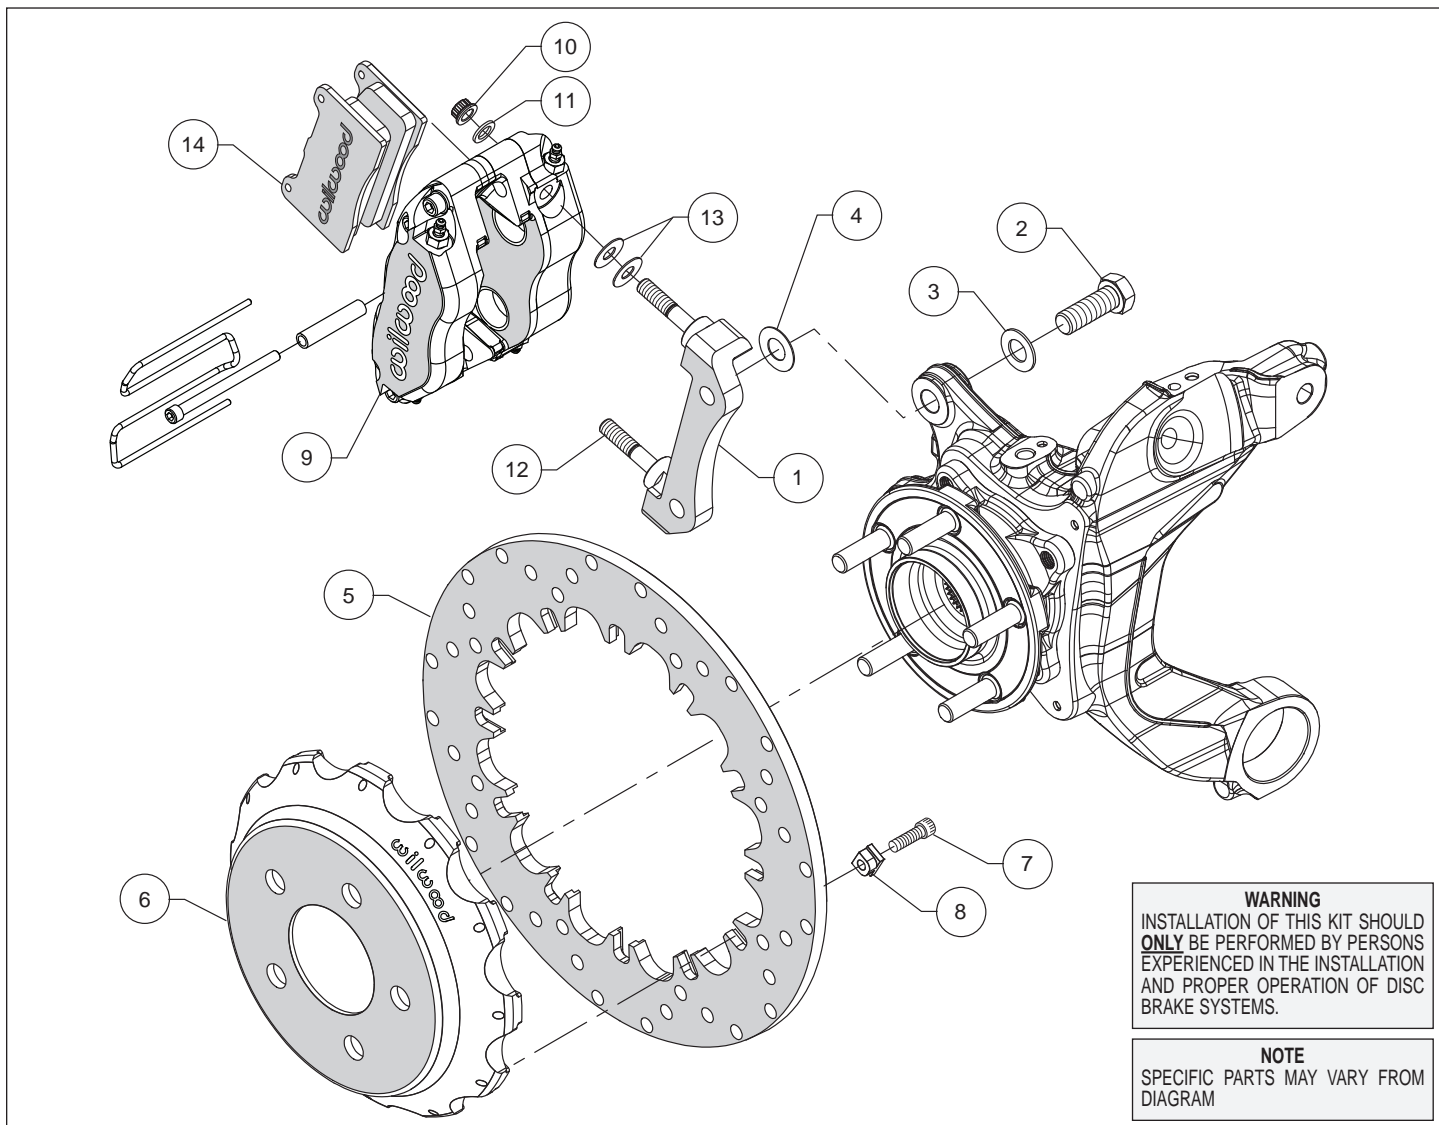
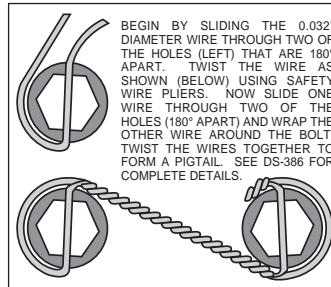

Figure 1. Typical Installation Configuration
Figure 3. Safety Wire Diagram
Assembly Instructions (numbers in parenthesis refer to the parts list and Figure 1 on the preceding pages):
- The caliper mount bracket (1) should initially be installed with clean, dry threads on the mounting bolts. Orient the bracket, as shown in Figure 1 and Photo 1, and install using bolts (2) and washers (3). Initially place one .033" thick shim (4) on each bolt between the bracket and upright, Figure 1. Temporarily tighten the mounting bolts. **NOTE:** *The bracket must fit squarely against the mount bosses on the upright.* Inspect for interference from casting irregularities, machining ridges, burrs, etc. Later, after the caliper alignment has been checked, the mount bolts will be secured using red *Loctite*[®] 271.
- Orient the rotor (5) and the hat (6) as shown in Figure 1 and Photo 2. Attach rotor to hat using bolts (7) and t-nuts (8). Using an alternating sequence, apply red *Loctite*[®] 271 to the threads, and torque to 120 **in-lbs**. The bolts must be safety wired using standard 0.032 inch diameter stainless steel safety wire as shown in Figure 3. Refer to Wilwood's data sheet DS-386 for complete safety wire installation instructions.
- Lubricate the caliper mounting studs (12) with lightweight oil. Initially place two .035" thick shims (13) on each stud as shown in Figure 1 and Photo 4. Mount the caliper (9) onto the bracket (1) using lock nuts (10) and washers (11), Figure 1. Temporarily tighten the lock nuts and view the rotor through the top opening of the caliper. The rotor should be centered in the caliper, Photo 5. If not, adjust by adding or subtracting shims (4) between the bracket and the mounting bosses. Once the caliper alignment is correct, remove the bracket mounting bolts one at a time, apply red *Loctite*[®] 271 to the threads, and torque to 77 ft-lbs.
- Insert the brake pads (14) into the caliper with the friction material facing the rotor (5), as shown in Figure 1 and Photo 6. Check that the top of the brake pad is flush with the outside diameter of the rotor, Photo 7. If not, adjust by adding or subtracting shims (13) between the caliper and the bracket. After the caliper pad height is set, torque the caliper lock nuts (10) to 30 ft-lb. Secure the pads in place using the pad clip retainer as well as the center bridge pad retainer tube, bolt, and locknut, Photo 8. The locknut should be snug without play in the bolt or tube. Be cautious not to over tighten.